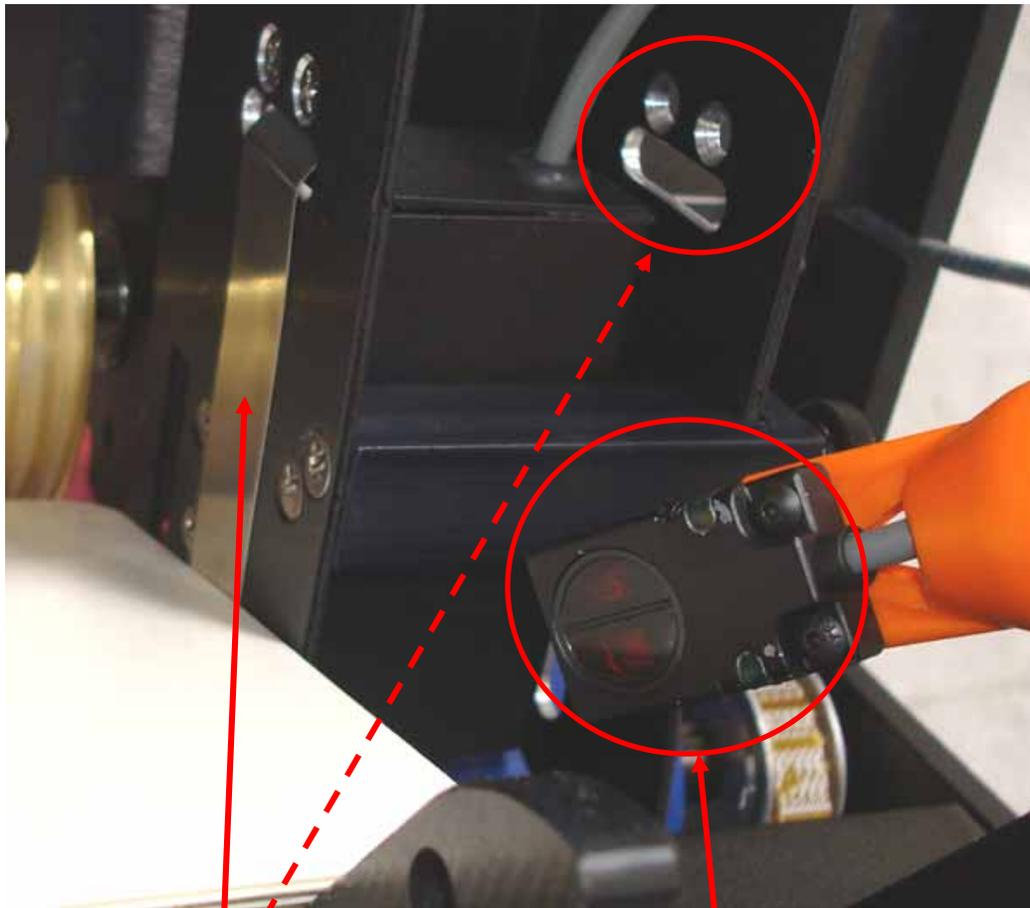

Figure III-13
1. Position the sensor directly in line with the access port of the material side guide. See figure III-13.